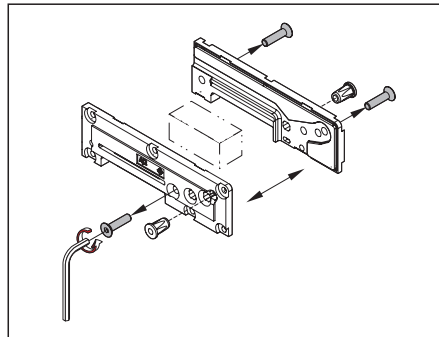

Fig. 5 Dismantling the fitting
10. Dismantle the fitting (Fig. 5).